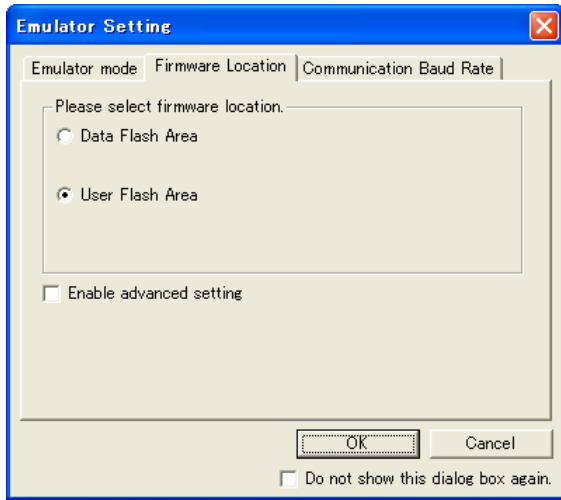
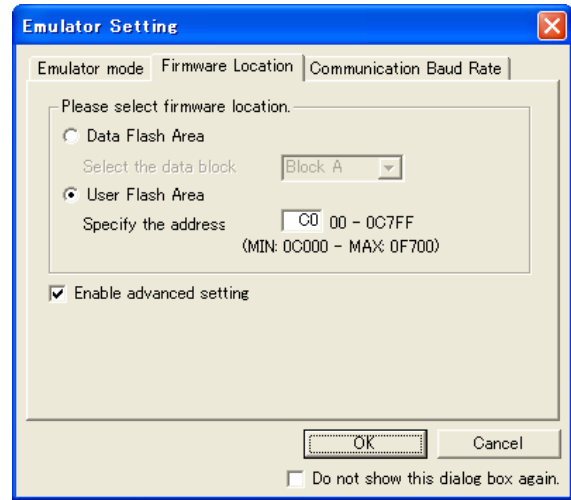

Figure 6.1 [Firmware Location] tab of [Emulator Setting] Dialog Box (1)
Figure 6.2 [Firmware Location] tab of [Emulator Setting] Dialog Box (2)
- When using the MCU types R5F21104, R5F21114, R5F21124 or R5F21134, the [Emulator Setting] dialog box shown in Figure 6.1 is displayed. Specify the area which will not be used by the user system. If the [Enable advanced setting] check box is checked, the area used by the emulator can be specified with the address (Figure 6.2).